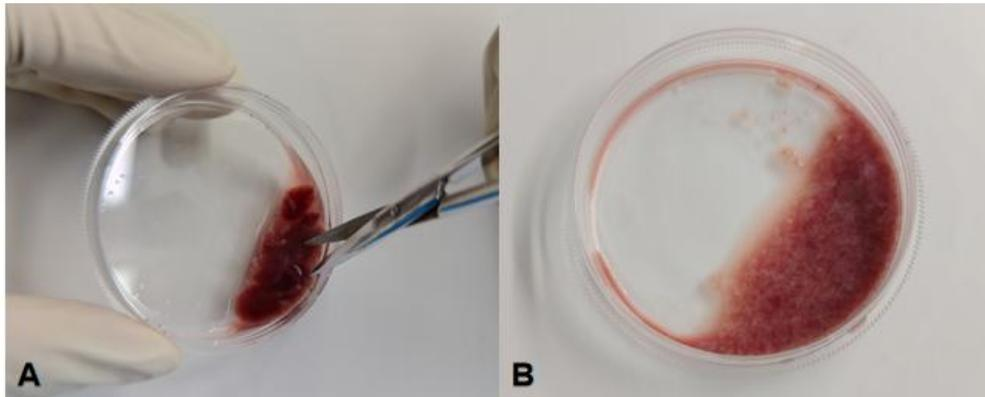

Figure 1. Treatment of liver tissue in vitro
(1) Tissue Processing
- b. Quickly cut the tissue into 1 mm³ pieces using ophthalmic scissors 3, until the tissue is sugar like (as shown in Figure 1) and there are no large pieces of tissue. Use a Pasteur pipette or a pipette with a wide mouthed tip to transfer the tissue fluid and transfer it to a 50 mL centrifuge tube. Add 5 mL **Specialized Washing Solution For Mouse Liver Sinusoidal Endothelial Cells** to clean the liver tissue culture dish and transfer it to the same centrifuge tube. Centrifuge at 300 g for 1 min, discard the supernatant, and retain the tissue precipitate.
(2) Tissue Digestion